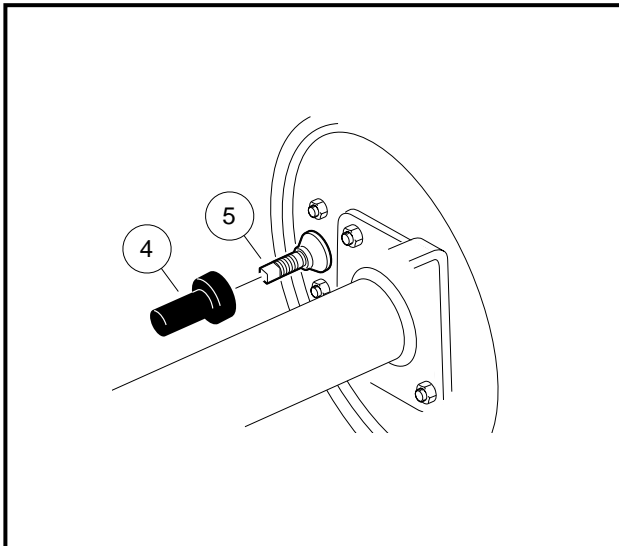
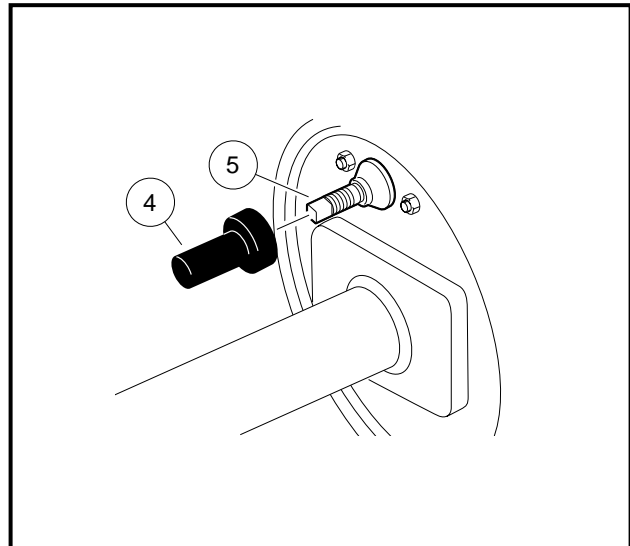

Figure 6-25 Front Brake Adjustment Bolt
Figure 6-26 Rear Brake Adjustment Bolt
3. Remove the dust cover (4) on the left and right front brake cluster assemblies (**Figure 6-25, Page 6-16**).
3. Install the rubber dust covers (4) over the brake adjustment bolts (5) (**Figure 6-25, Page 6-16 and Figure 6-26, Page 6-16**).